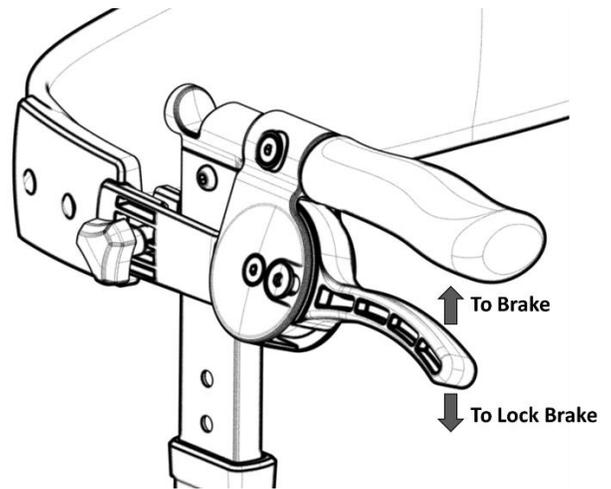

FIGURE 4
4. Pull brake lever up for normal operation; push lever down to lock brake as shown in *FIGURE 4*. **WARNING: Brakes**